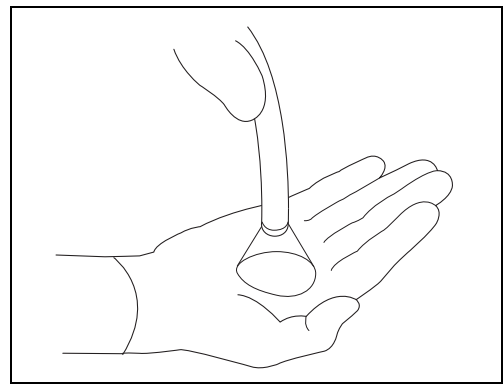

Figure 3.27
- 3 Confirm that light is output from the endoscope's distal end. (See Figure 3.27)